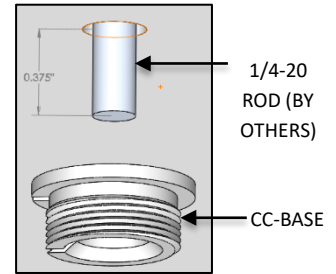

FIG. 18 - GRID CEILING
- Add a light thread locking compound to the 1/4-20 ROD (by others). Then thread CC-BASE to 1/4-20 ROD protruding through the ceiling material as shown in FIG. 18.